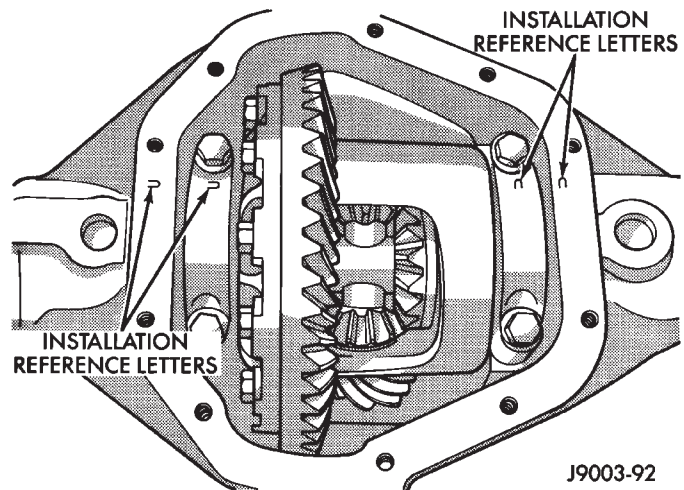

Fig. 31 Bearing Cap Identification
- (1) Raise and support vehicle.
- (2) Remove the lubricant fill hole plug from the differential housing cover.
- (3) Remove the differential housing cover and allow fluid to drain.
- (4) Remove axle shafts.
- (5) Note the installation reference letters stamped on the bearing caps and housing machined sealing surface (Fig. 31).